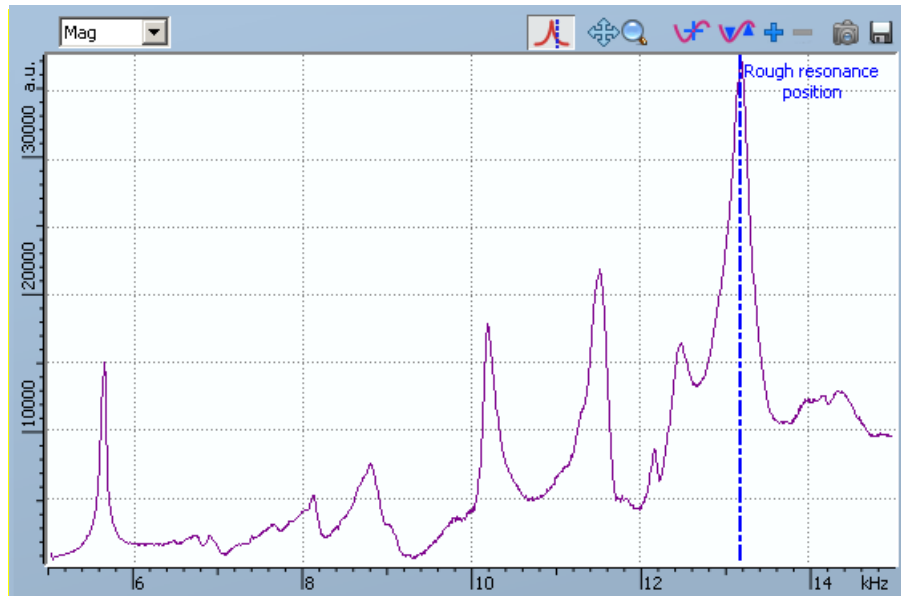

Figure 7.3.6 Amplitude frequency characteristic of the Nanoworld PNP-DB probe, short cantilever.
- Normally you can see a few peaks on the amplitude frequency characteristic nearby the expected resonance frequency (fig. 7.3.6). You can use any of those peaks as the drive frequency, but it's recommended to use the highest one in terms of amplitude and frequency.